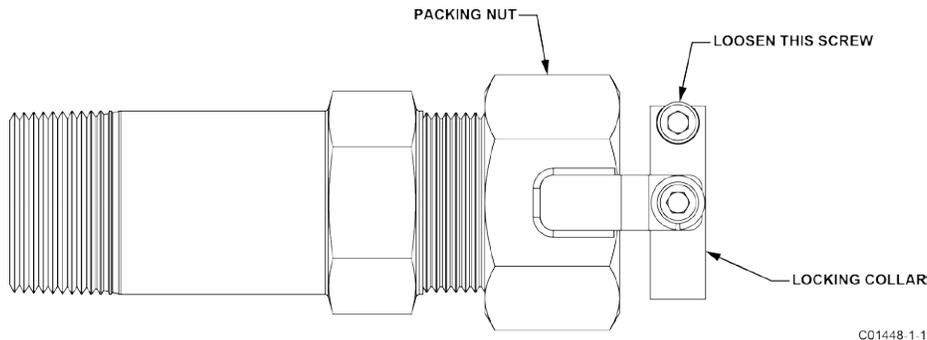

Figure 7 – Packing Gland Locking Collar
- a. Loosen the socket head cap screw on the side of the locking collar. See Figure 7 below.
- b. Loosen the socket head cap screw on the side of the locking collar. See Figure 7 above.